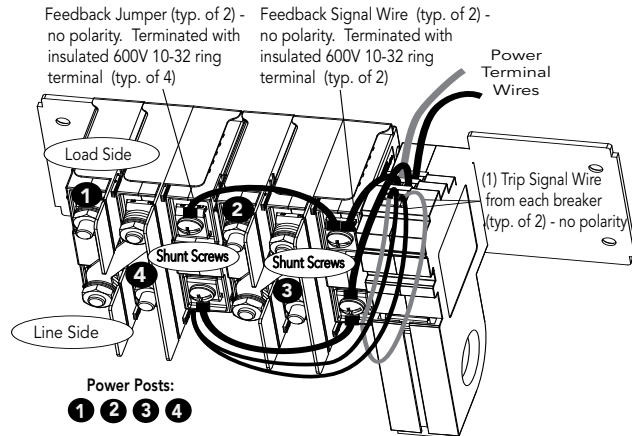

Figure 6. Pre-Wired GFPD-600V / Breaker Assembly
The GFPD-600V and breakers are assembled at the factory. Feedback jumper, shunt and trip signal leads are pre-wired to the GFPD-600V terminals - See Figure 6. The GFPD-600V external voltage source connections are described in the next section - Completing Wiring.
#### 3.2.2 Completing Wiring - See Figures 6, 7 and 8
**Step 2.** Crimp the included ring terminals on the ends of the (+) and (-) solar<->breaker conductors, and attach solar array (+) wire to post (2) (load side), and solar array (-) wire to post (4) (line side) using the supplied hardware (see Figure 6).
**Step 3.** Crimp the included ring terminals on the breaker side ends of the (+) and (-) breaker<->controller wires. Attach breaker side (+) wire to post (3) (line side) and breaker side (-) wire to post (1) (load side) using the supplied hardware (see Figure 6).